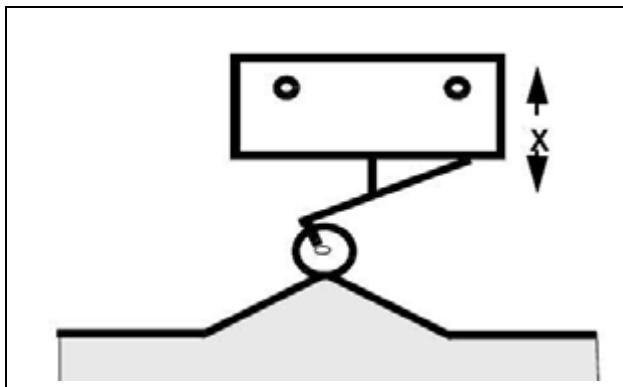

Fig. 5: Replacing the reference switch
- Move the drive in "unregulated motion" with the service PC (Adjustment, Calibration) in mm steps so that the corresponding reference switch is actuated (refer to \(Fig. 5 / p. 36\)). Check with DVM at D5.X2.A1...A11, 0V=X30.
- Adjust the reference switch by moving it in the X direction. The switch should activate within the mechanical limits of the switching hysteresis (\(Fig. 5 / p. 36\)).
- Continue to move toward the switch in inching mode ((Fig. 5 / p. 36)).